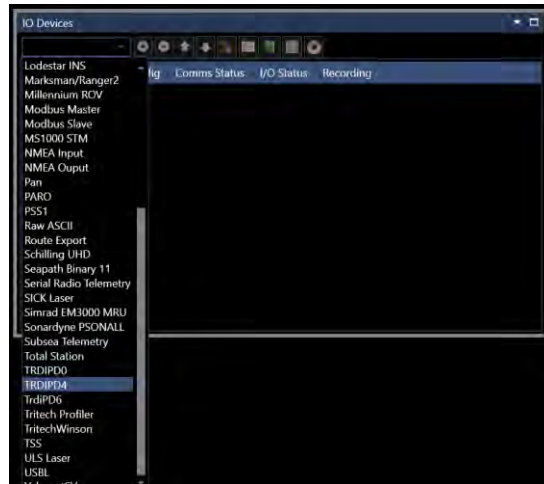

FIGURE 18-4 I/O DEVICE SELECTION
- From the drop-down, select the TrdiPD4 device (see Figure 18-4)